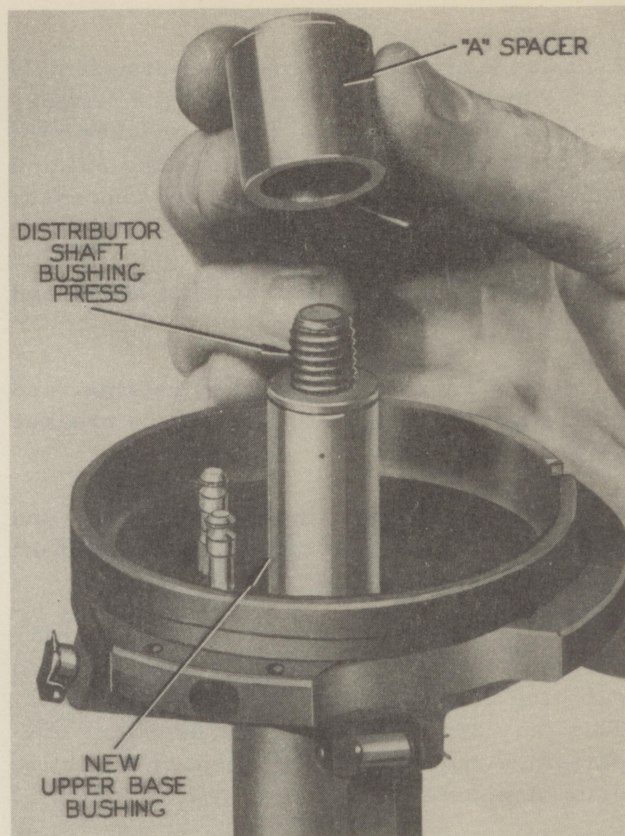

Fig. 10
2. Remove the "T" wrench and "A" spacer. Then place the upper bushing, with the snap ring end up, on the distributor base. Place the "A" spacer over the bushing, (reverse position from the previous operation) (Fig. 10) and turn the "T" wrench down until the "A" spacer seats firmly against the distributor base, thus completing the installation of the new upper base bushing.
3. To install the upper base bushing, remove the "T" wrench and the "A" spacer. Place the upper base bushing (snap ring end up) on the shaft and place the "A" spacer over the bushing (Fig. 10). Turn the "T" wrench down until the "A" spacer seats firmly against the distributor base.